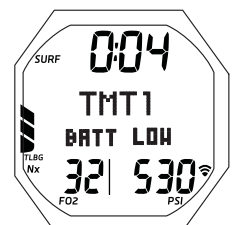

Fig. 2 - TMT LOW BATT ALARM
- The graphics TMTx BATT LOW also alternate with the NORM (or GAUG) graphics on the matrix portion of the NORM (or GAUG) Surface Main screen (Fig. 2).